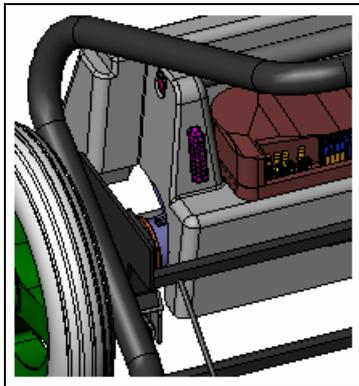

Figure 22
- b. Disconnect the electrical connector coming from the frame to the power unit Socket (See **Figure 22**)